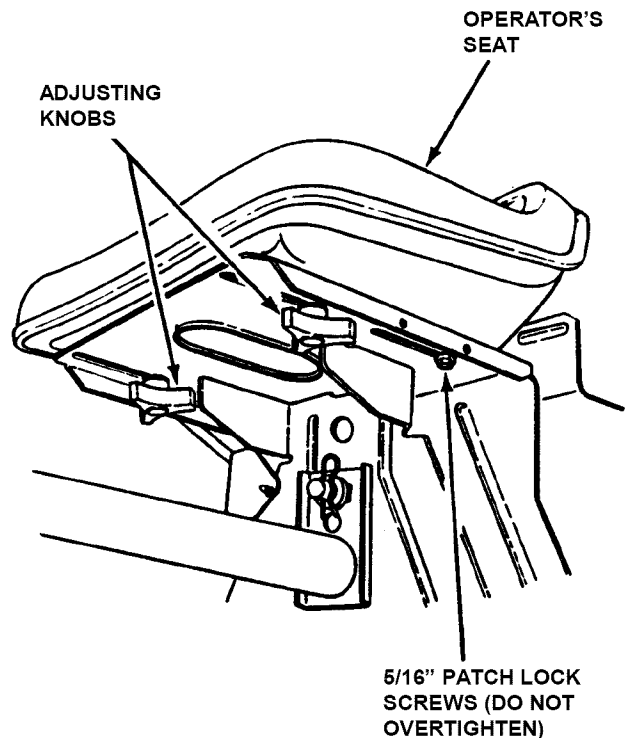

FIGURE 2.3
1. With the engine stopped, loosen the two adjusting knobs and move seat to desired position. After adjustment, tighten knobs securely. If seat does not move after loosening knobs, it may be necessary to loosen the 5/16" patch lock screws located at the rear of the seat using a 1/2 inch wrench. See Figure 2.3.